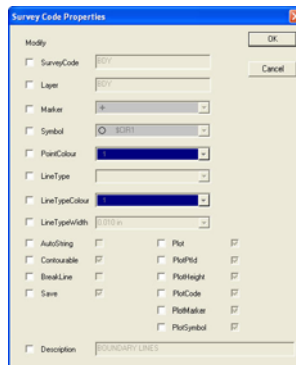

Figure 16-5. Modify a Survey Code
- **Modify** – select the code you want to change, then press **Modify**. The *Survey Code Properties* dialog box appears (Figure 16-5).